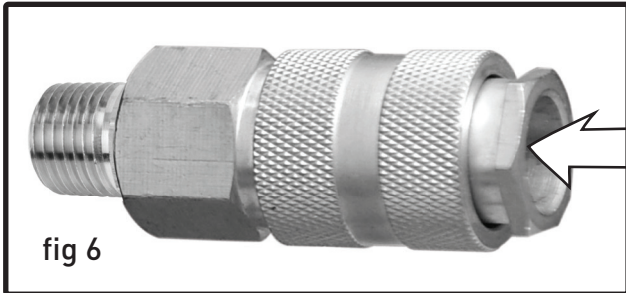

fig 6
Your air compressor is supplied with a 1/4" push-connect air coupler (fig 6). With a factory installed air coupler, your compressor is ready to accept air hoses equipped with 1/4" male air connectors (fig 4).
1. Simply push the "connector" or "plug" into the fitting (fig 6) and it automatically engages.